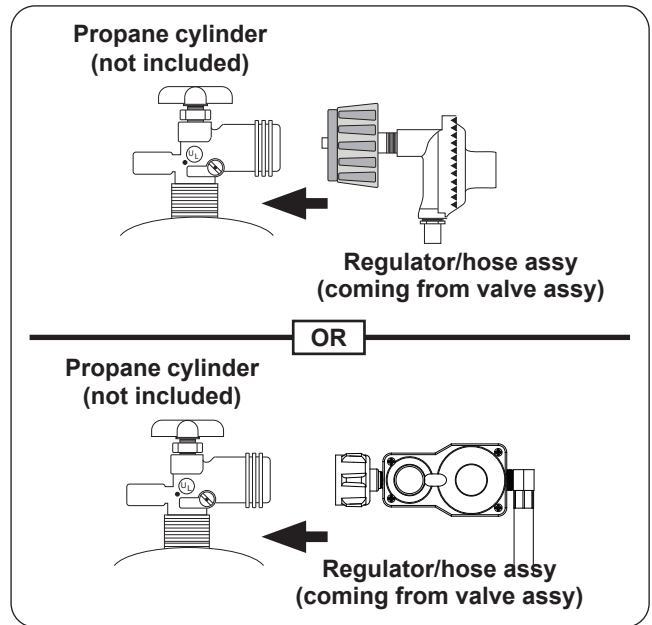

Fig. 39-1 Connecting to an L.P. cylinder
2. Attach the regulator end of the hose assembly to a propane cylinder (not included) and tighten (see Fig. 39-1).